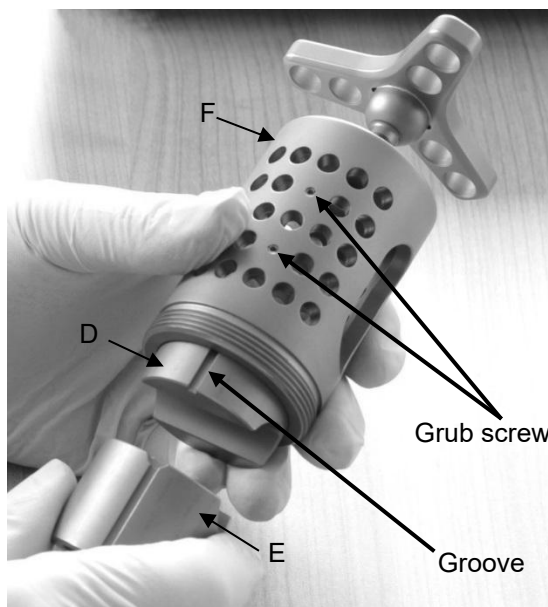

Fig. 8
First insert the outer (D) and then the inner (E) clamping jaw into the clamping cylinder (Fig. 8). Ensure that the groove of the clamping jaws is pushed over the two small grub screws protruding from the inner wall of the clamping cylinder (F). These serve as anti-rotation protection. Then the inner clamping jaw (E) is pushed into the clamping cylinder (F).